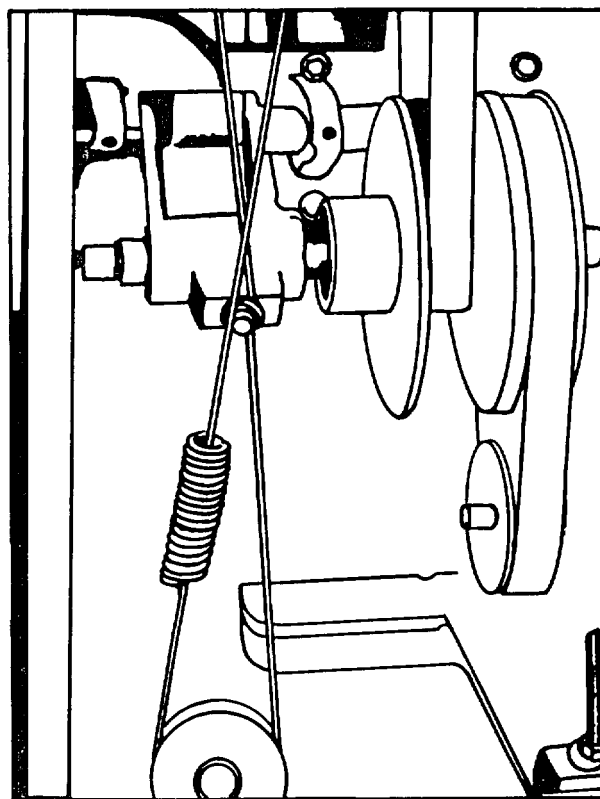

Fig. 3.
4. Turn the variable speed control lever counterclockwise until the variable speed pulley ( \ ) Fig. 3, is completely lowered.